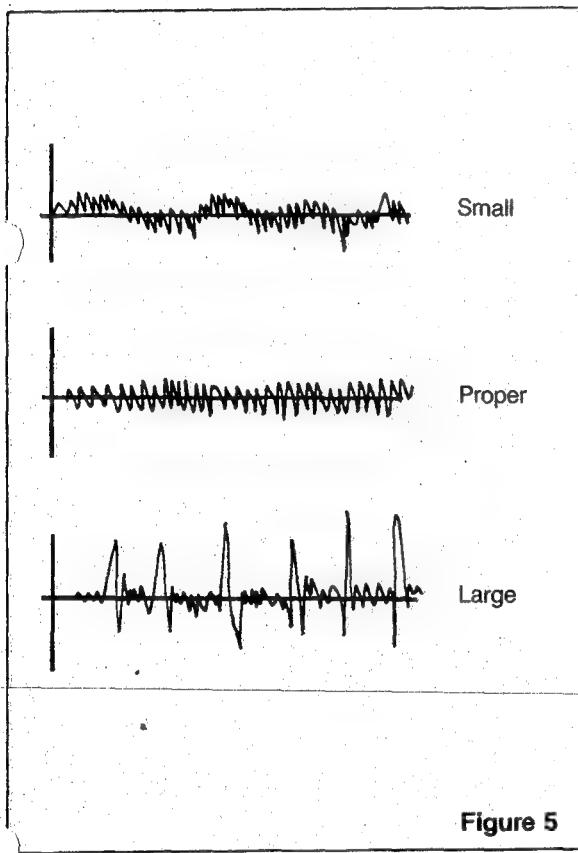

Figure 5
- Connect the oscilloscope to TP3 (TE) and TP4 (GND).
- Adjust VR203 so that oscilloscope indicate the figure shown in Figure 5.